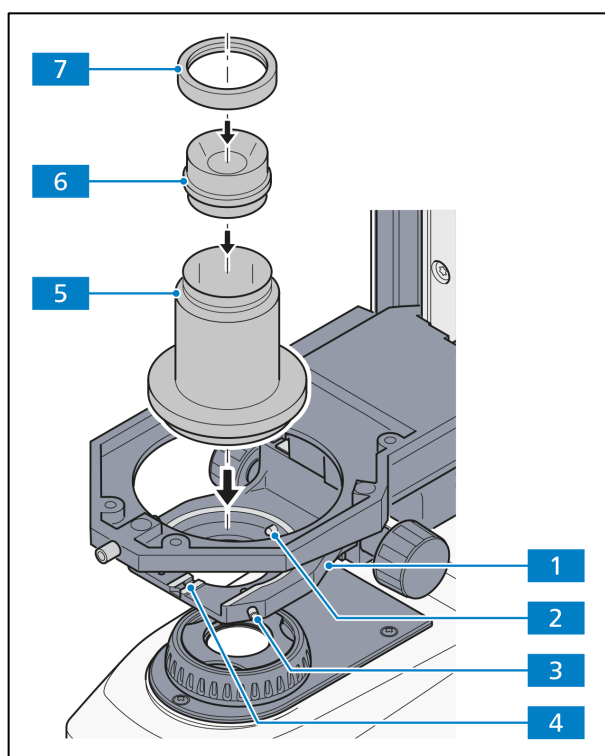

Fig. 3-23 Mounting the darkfield condenser
- Insert the darkfield condenser (Fig. 3-23/6) in the condenser holder Z (Fig. 3-23/5) and screw on the fastening ring (Fig. 3-23/7).
- Push the condenser holder Z (Fig. 3-23/5) against the spring box (Fig. 3-23/2) into the condenser carrier (Fig. 3-23/1).
- Tighten both centering screws (Fig. 3-23/3) on the condenser carrier (Fig. 3-23/1) until they grip the dovetail ring and hold the condenser holder Z (Fig. 3-23/5) in place.